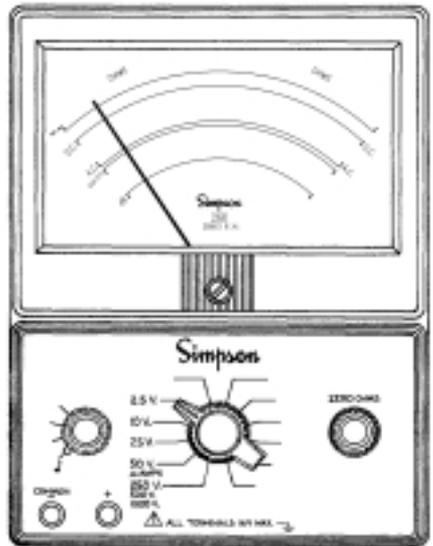

Figure 4-13. Jacks and Switch Positions for Continuity Tests
- Set the FUNCTION switch to the "Ω ." Insert the black test lead into the COMMON (-) and the red test lead into the (+) jacks, (Figure 4-13).